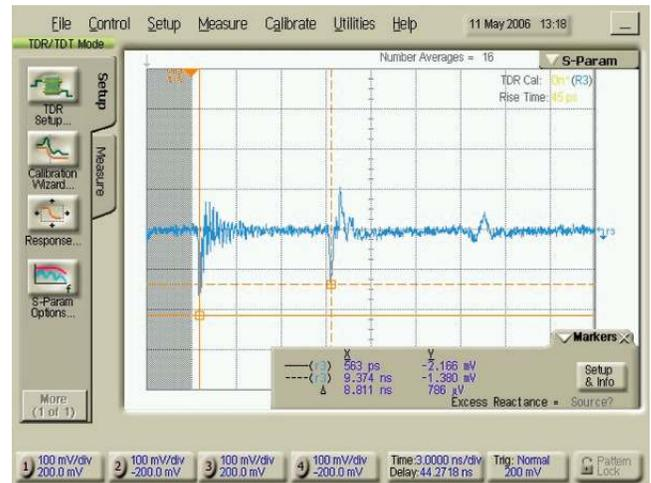

Figure 7. NEXT Time Domain
- Display the differential TDT response and adjust the time/div to display 4–6X the cable length on the screen (see Figure 7 and note markers at start and 2X).